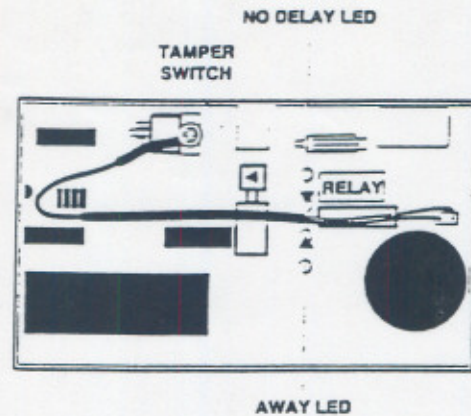

Figure 4. Resistor Cable Routing
- 4) Route the resistor cable (see Figure 4) to avoid mechanical interference.